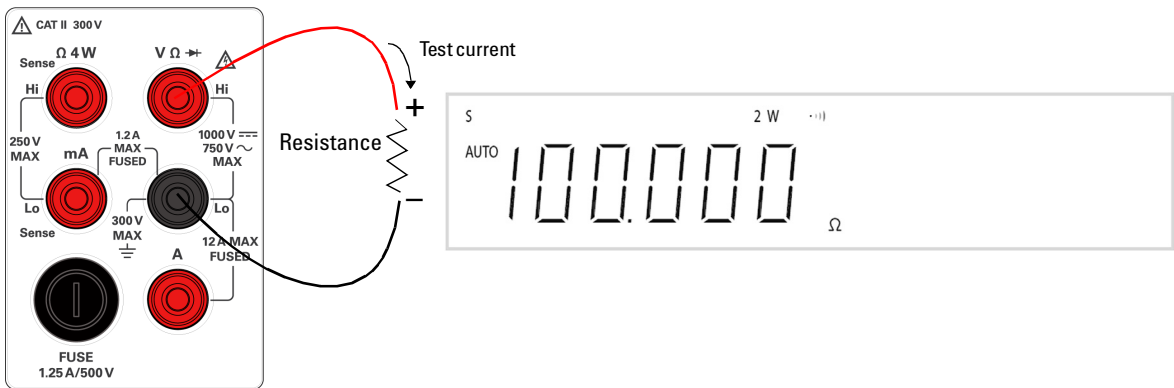

Figure 2-10 2-wire/continuity test terminal connection and display
- 2 Connect the red and black test leads to the input terminal as shown in Figure 2-10.